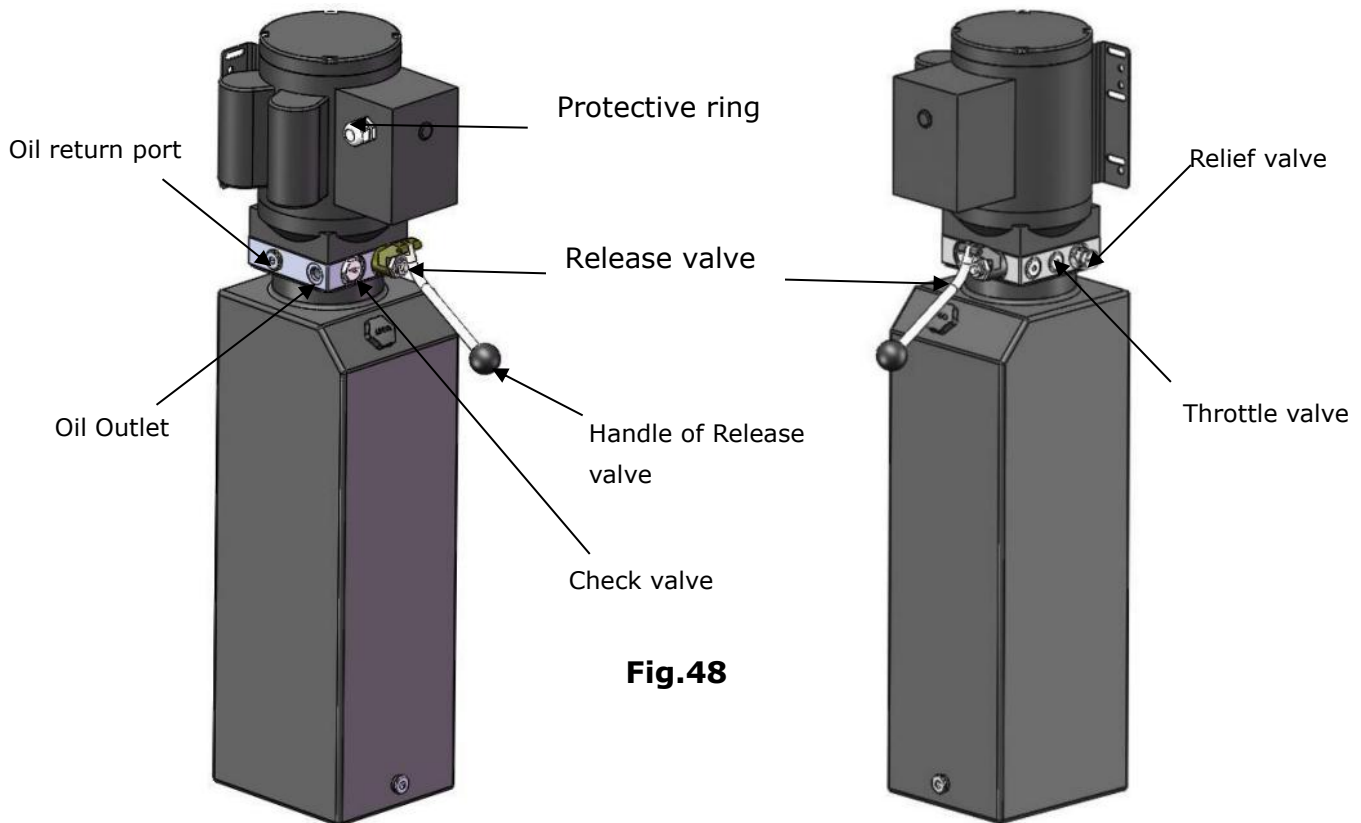

Fig.48
4.3 Illustration of Hydraulic Valve for power unit (See Fig.48)